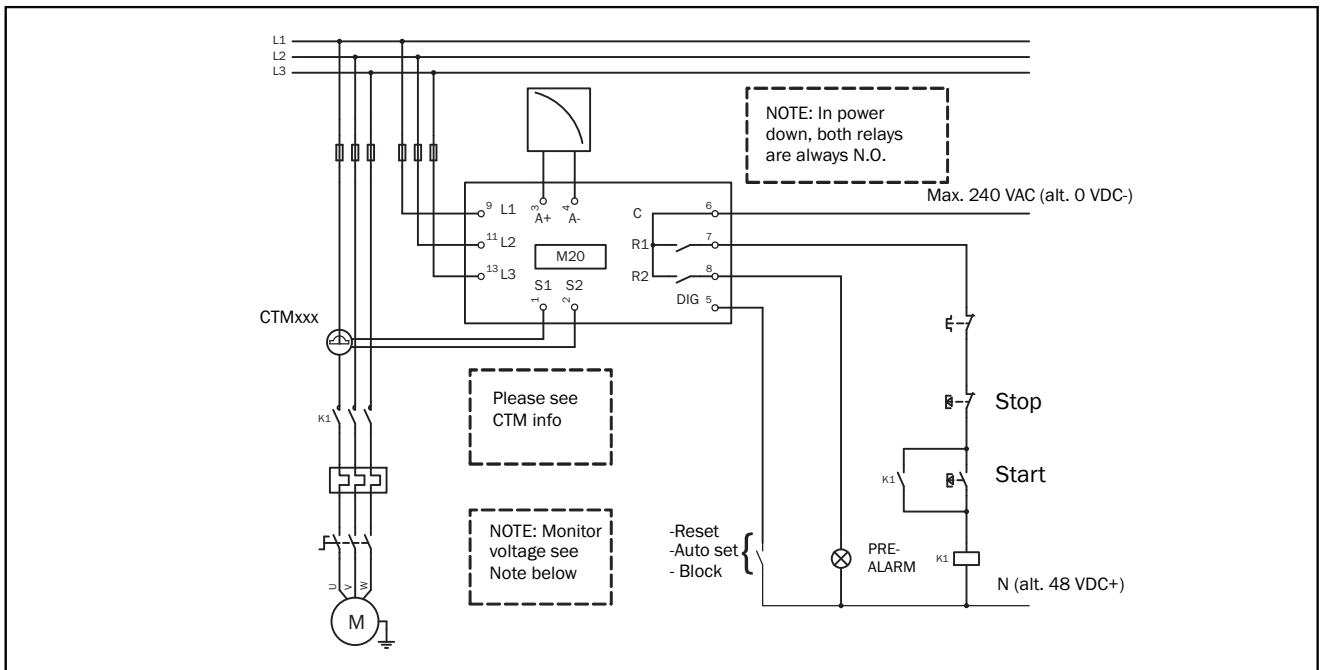

Fig. 2 Connection example
**NOTE:** The current transformer (CTMxxx) must be placed in the same phase that is connected to terminal 9, phase L1, see Fig. 2.